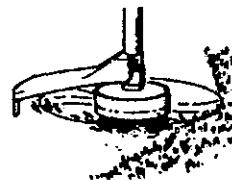

Figure 16
3. **MOWING** - Figure 16. Your trimmer is ideal for mowing in places conventional lawn mowers cannot reach. In the mowing position, keep the line parallel to the ground. Avoid pressing the head into the ground as this can scalp the ground and damage the tool.